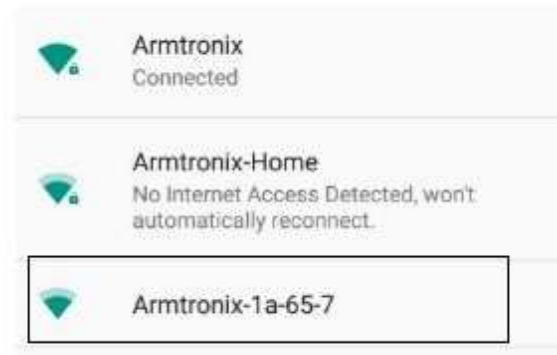

Figure 10: Device hosting Access point
Power ON the device, so that, it will host the access point as shown in Figure 10,
Connect the mobile to access point with Armtronix-(MAC ID). EX: Armtronix-1a-65-7 as shown in Figure 10.
1. After connecting, open any browser and enter the IP address as 192.168.4.1 on your Smartphone it opens the Web Server as shown in the Figure 10 below, then enter the SSID and Password and you can give the Host name of your choice (just for your reference) then click on SAVE button.
6. Click on Tools Tab, move mouse pointer on "Board: xxxxxxxxxxxx" and click on "Arduino Uno" as shown in figure 10.